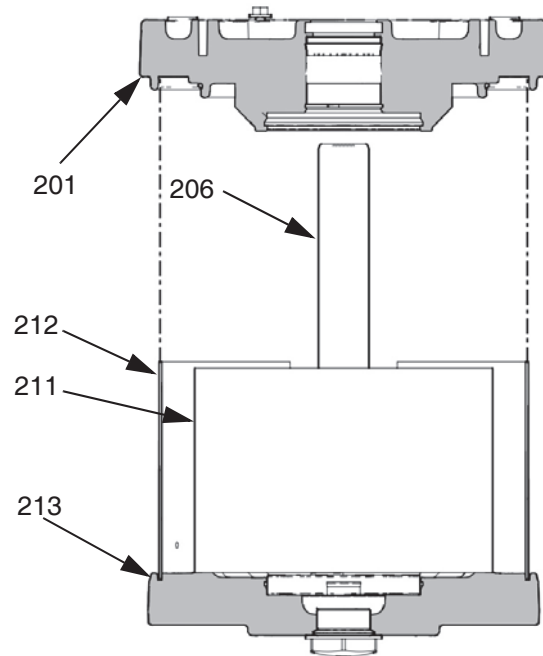

FIG. 10
10. Lubricate and install the o-ring (209) in the bottom cover (201).
11. Install the piston bumper (228) on the bottom cover (201).
12. Carefully place the bottom cover (201) on the cylinder (211), sliding the plunger (206) through the seal stack. The manifold surfaces of the top and bottom covers must align. Be sure the shield (212) is in the groove on both the top and bottom covers. See FIG. 10.